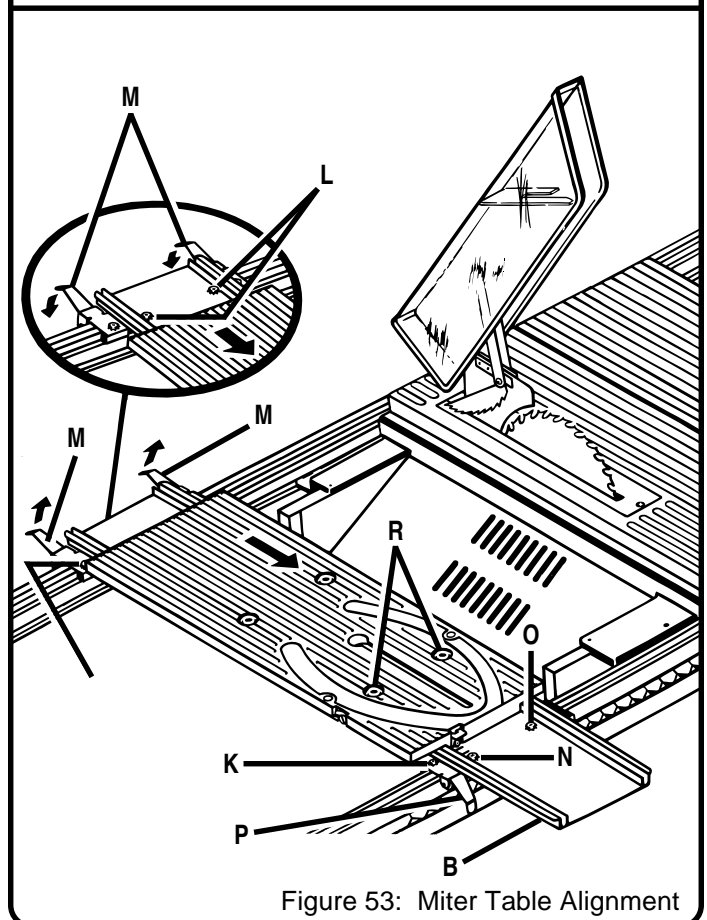

Figure 53: Miter Table Alignment
**Eight screws are visible on the miter base (B).**
1. Four screws (K) are on the holder plates and secure these plates to the rails. It is not necessary to loosen or adjust these screws for this adjustment procedure.
2. Another pair of screws (L) is in the base, at the rear. Loosen these two screws (L) and the rear miter locking clamps (M). See Figure 53.
3. The last pair of screws is located on the infeed side of the base. Loosen the left screw (N) **only**.
4. The right screw (O) will be used as a pivot point.
**NOTE:** The front two miter locking clamps (P) and rail clamps should remain locked.
6. Retighten the left front screw (N).
7. Clamp the rear miter locking clamps (M).
8. Retighten the two rear screws (L).